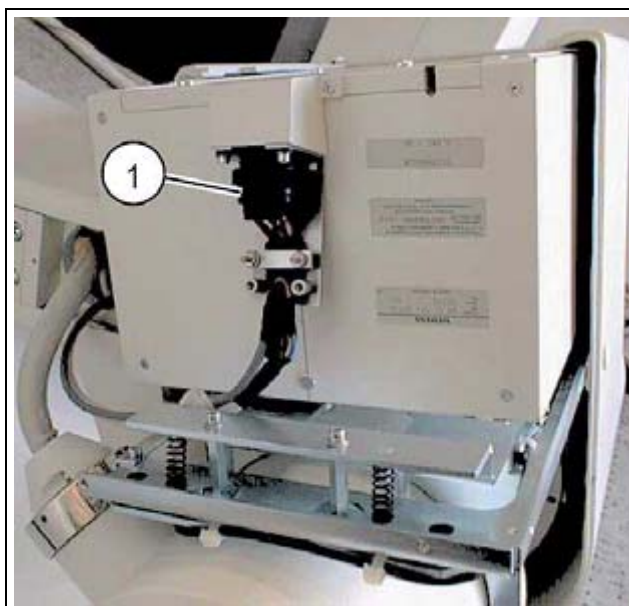

Fig. 1: Strain relief
- Attach the cable at the panel using strain relief clamps ((1/Fig. 1 / p. 28)).